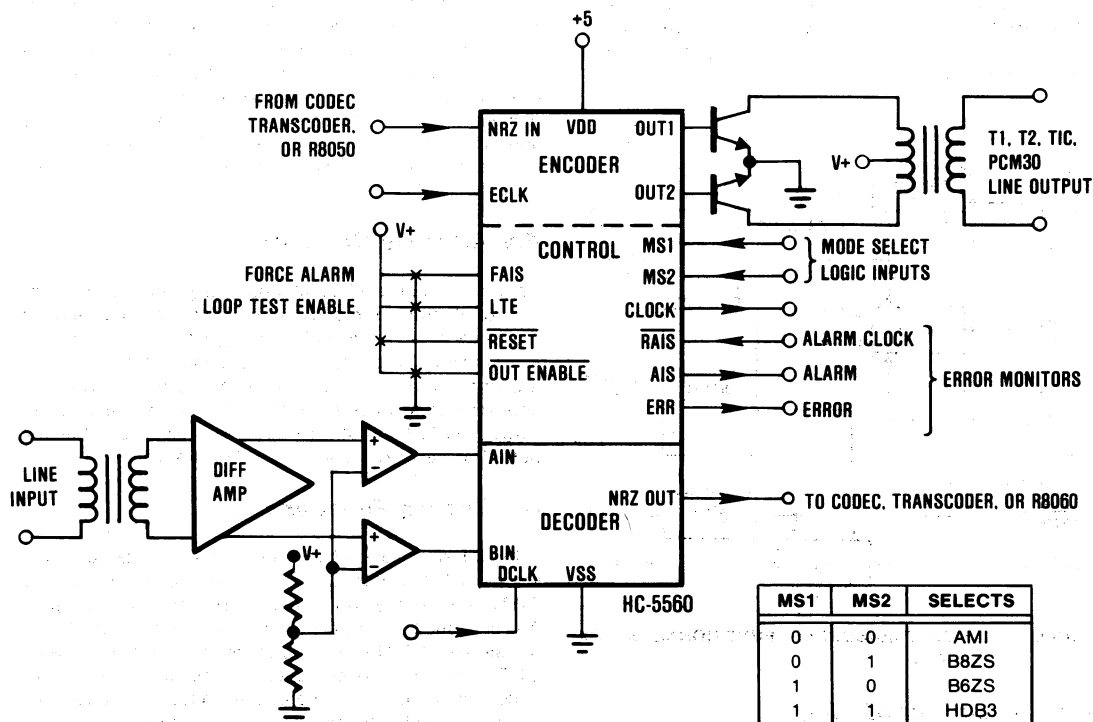

FIGURE 3. BASIC TRANSCODER APPLICATIONS CIRCUIT.
The basic applications circuit is shown in Figure 3. The encoder accepts serially clocked unipolar non-return to zero (NRZ/PCM) data at the NRZ IN pin and codes it into two unipolar return to zero (RZ) signals at pins Out1 and Out2. A coding scheme is chosen via mode select pins MS1 and MS2. Data is clocked in on the negative edge of ECLK and clocked out on the positive edge of ECLK.